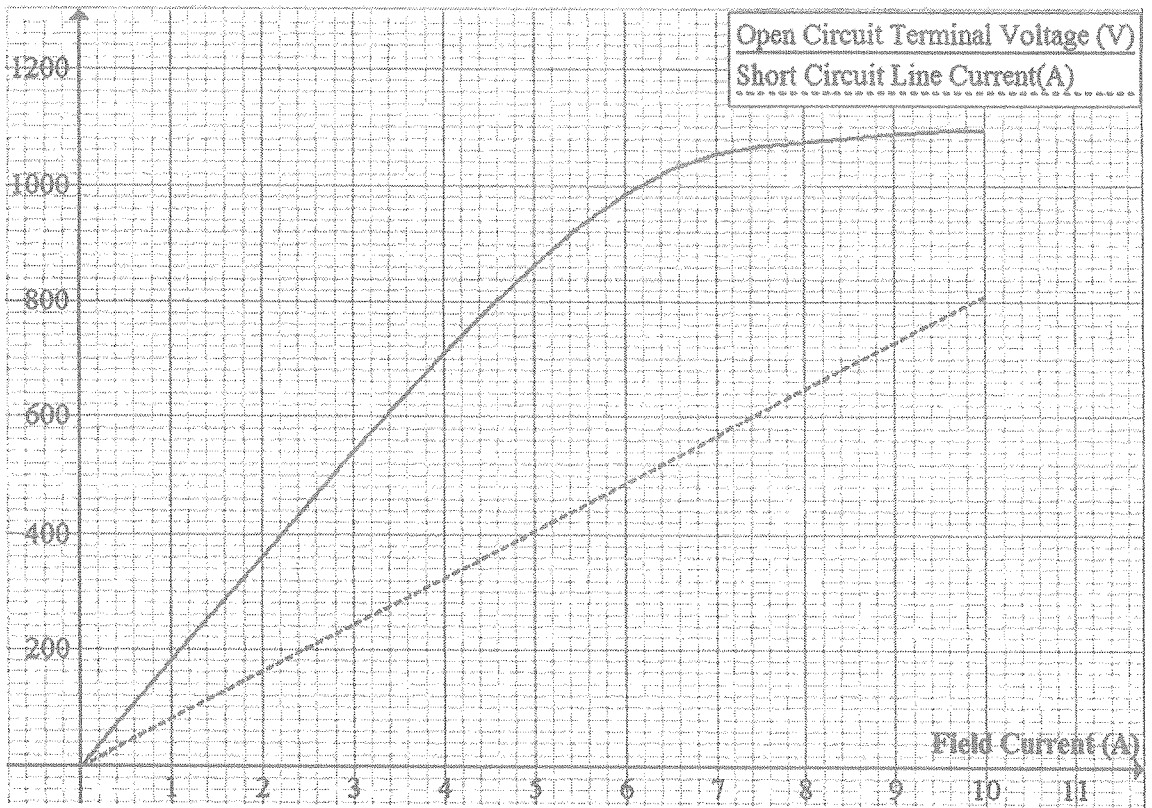

Figure Q5
- b) A 300 kVA, 480 V, 0.85 p.f. lagging, 60 Hz, two pole, wye-connected three-phase synchronous generator has an armature resistance of 0.04Ω . The core loss, the stray loss and the rotational loss of the generator under rated conditions are 10 kW, 2 kW and 13 kW respectively. The open-circuit and short-circuit characteristics of the generator are shown in Figure Q5.